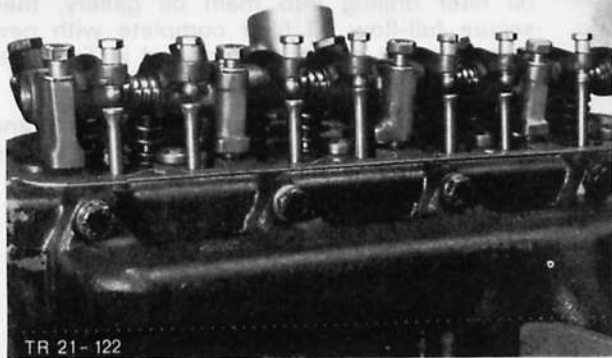

Fig. 93. Fit push rods in rocker arm sockets
71. Lubricate push rods and guide them into the same sockets from which they were removed. Fit rocker shaft, inserting push rods into rocker arm sockets, Fig. 93. Tighten upper five rocker shaft bolts, followed by three lower bolts.